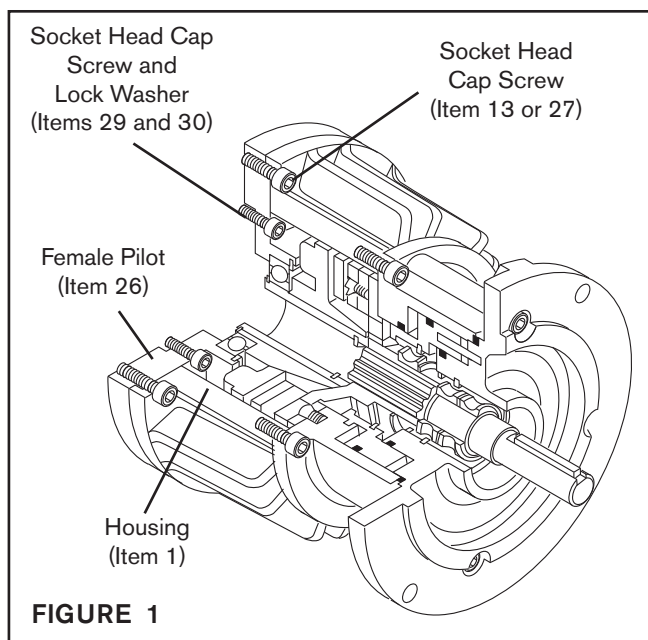

FIGURE 1
1. On Models 875, 1125, and 1375, first remove Socket Head Cap Screws (Item 27 on Models 875 and 1125 or Item 13 on Model 1375) and Female Pilot (Item 26); then, secure Female Pilot to the motor face using Socket Head Cap Screws (Item 29) and Lock Washers (Item 30) and tighten them to the recommended torque (See Figure 1 and Table 1).
On Models 875, 1125, and 1375, secure the FMCBE Housing (Item 1) to the Female Pilot (Item 26) using Socket Head Cap Screws (Item 27 on Models 875 and 1125 or Item 13 on Model 1375) and tighten them to the recommended torque (See Figure 1 and Table 1).
4. On Models 875, 1125, and 1375, first remove the Socket Head Cap Screws (Item 27 on Models 875 and 1125 or Item 13 on Model 1375) and Female Pilot (Item 26); then, secure Female Pilot to the motor face using Socket Head Cap Screws (Item 29) and Lock Washers (Item 30) and tighten them to the recommended torque (See Figure 1 and Table 1).